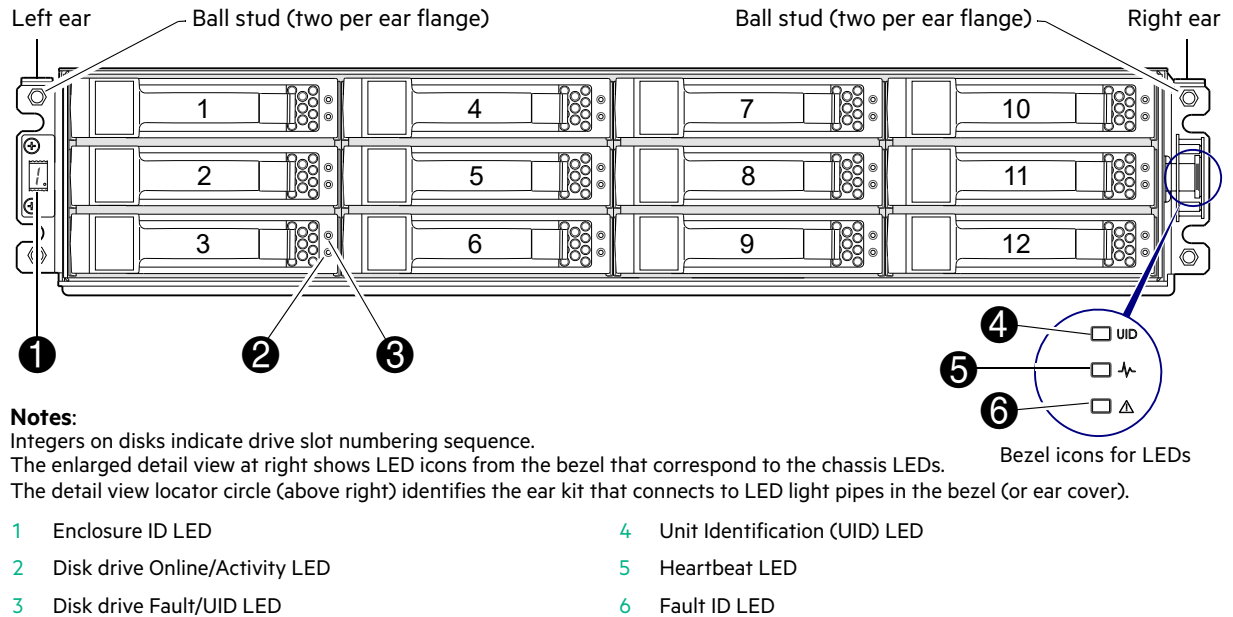

Figure 3 MSA 1050 Array LFF or supported 12-drive expansion enclosure: front panel
- The ball studs to which the bezel or ear covers attach are labeled in Figure 2 \(page 10\) and Figure 3 \(page 11\).